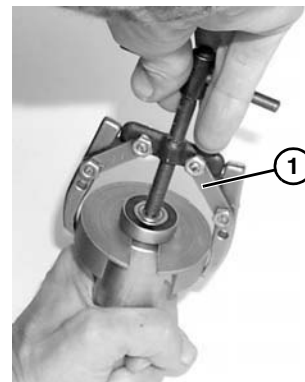

Figure 57
2. Using a puller (**Figure 57, item 1**), remove and discard bearing.